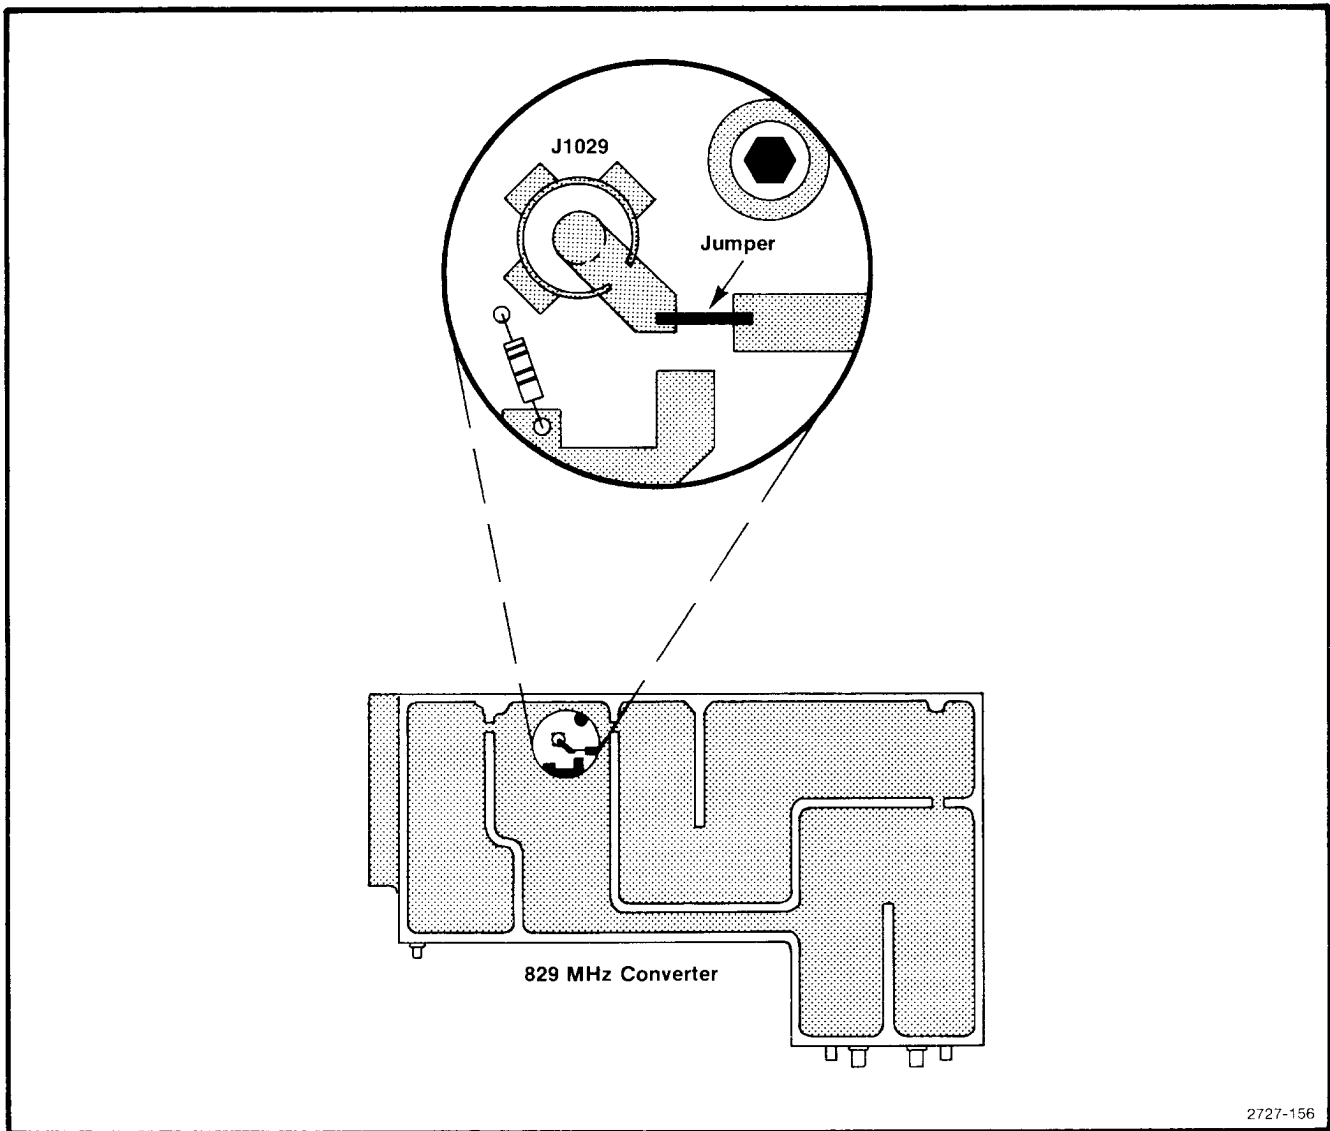

Fig. 4-13. Location of test jack and jumper on the 829 MHz Amplifier board.
b. Unsolder and reconnect the jumper, on the 829 MHz Amplifier board, to the test Peltola jack J1029 (see Fig. 4-13).